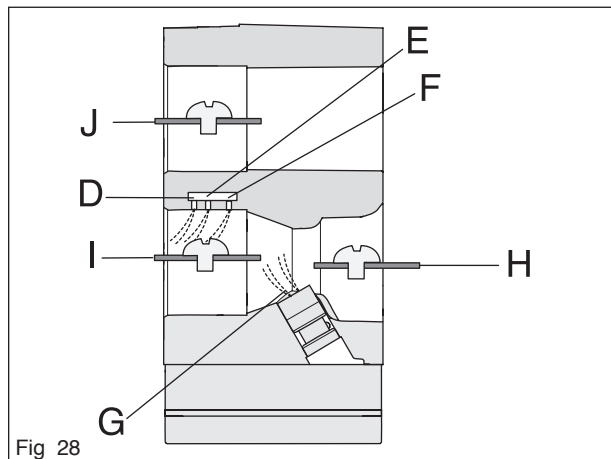

Fig 28
In full throttle mode (see figure below) all valves are open and fuel is supplied through all diffuser jets (D, E, F and G). Extra air inlet (J) is also fully opened (see figure 28).